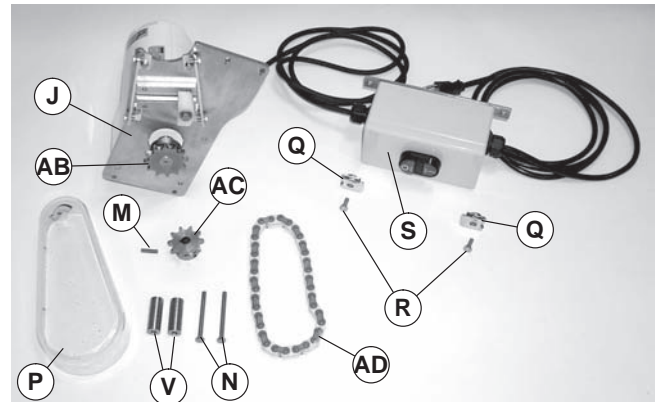
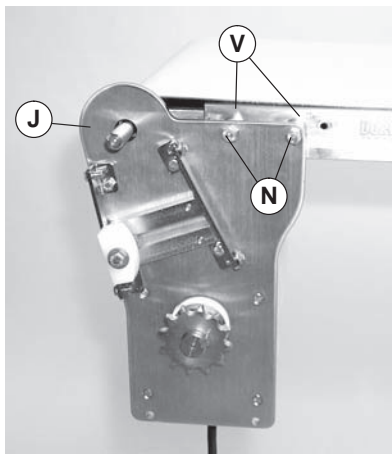

Figure 9
Figure 10
- Typical components (Figure 9)
Figure 9 shows a 7300 Series drive mounting package with a timing chain and single-phase motor starter. Three-phase motor starter or VFD controller is similar. 7200 Series drive mounting package is similar.
For a 7300 Series mounting package, install two 1.758" (44.7mm) long spacers (Figure 9, item V) and (Figure 10, item V) (shipped loose) between mounting plate/gearmotor assembly (J) and conveyor. On a 7200 Series (shown), two 0.438" (11.1mm) long spacers (V) are attached to the mounting plate/gearmotor assembly.
3. Install mounting plate/gearmotor assembly (J) and spacers (see Note) with two screws (N). Tighten screws to 92 in-lb (10.4 Nm).